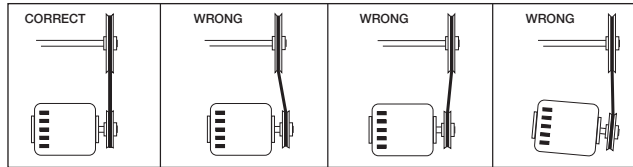

Figure 11
6. If adjustments are made, it is very important to check the pulleys for proper alignment. Misaligned pulleys lead to excessive belt wear, vibration, noise and power loss, see Figure 11.